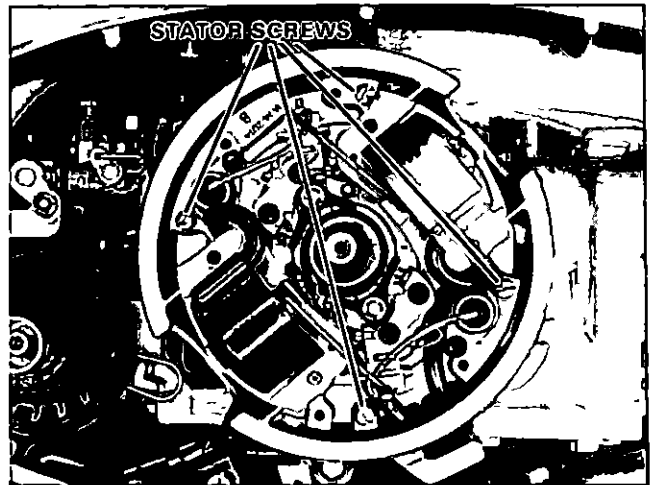

Figure 43. Stator Hold-Down Screw Locations.
- 4 Remove four (4) screws holding magneto stator plate to stator ring Figure 43